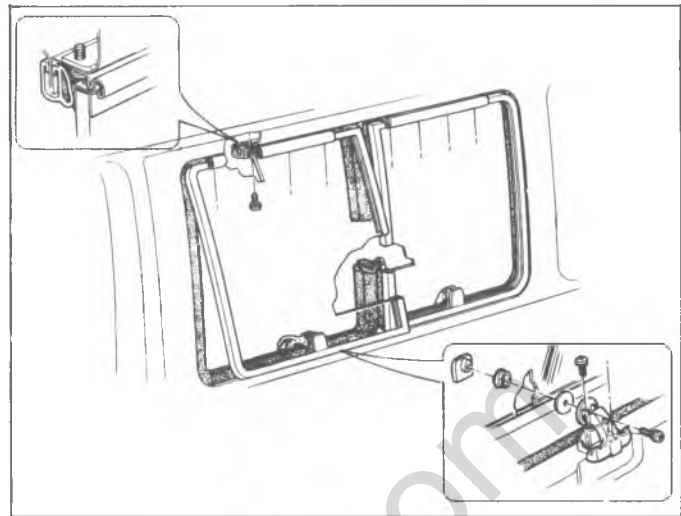

Fig. 11G—Swingout Window
- Swing out the window. See figure 11G.